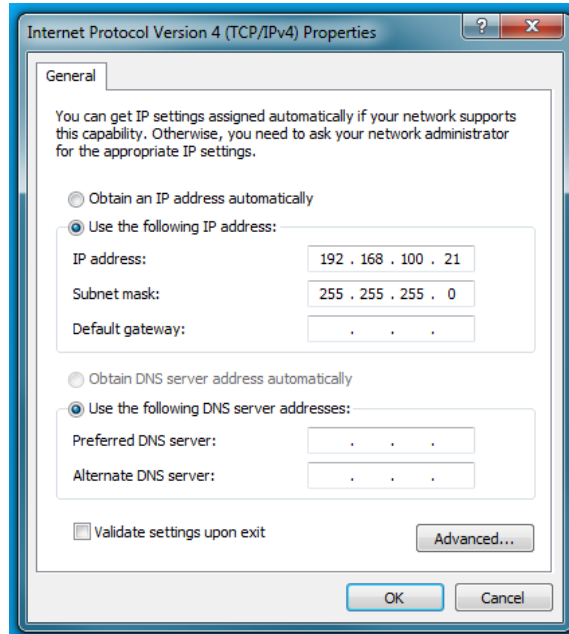

Figure 9-1 Computer Network Configuration
11. Configure the network parameters as shown in Figure 9-1